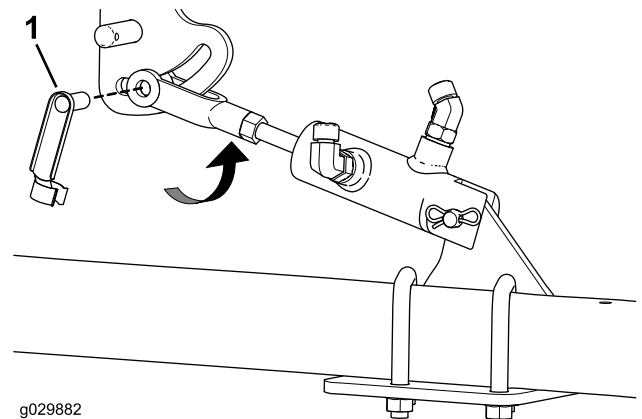

Figure 9
- Insert the spring-clevis pin through the yolk linkage and rotate it into the locked position (Figure 9).